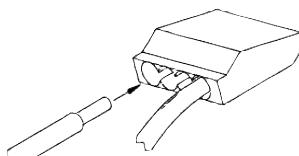

Figure 6
5. Dénuder les fils noir et blanc sur 3/8 po à 7/16 po. Voir la Fig 6
6. Connect supply (house) wires to fixture wires, push stripped wires into appropriate connector: white to white and black to black and green to green or bare copper ground wire. See Fig 6.
5. Pele las puntas de los cables blanco y negro para exponer de 3/8" a 7/16" (9.5 mm a 11 mm) del metal. Ver fig 6.